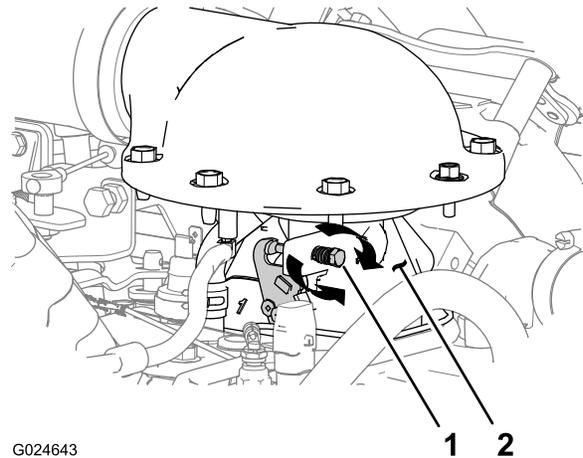

Figure 84
3. If the engine low-idle rpm is faster or slower than 1100 rpm, rotate the idle screw clockwise or counterclockwise at the throttle body for the engine until the engine idle speed is 1100 rpm (Figure 84).